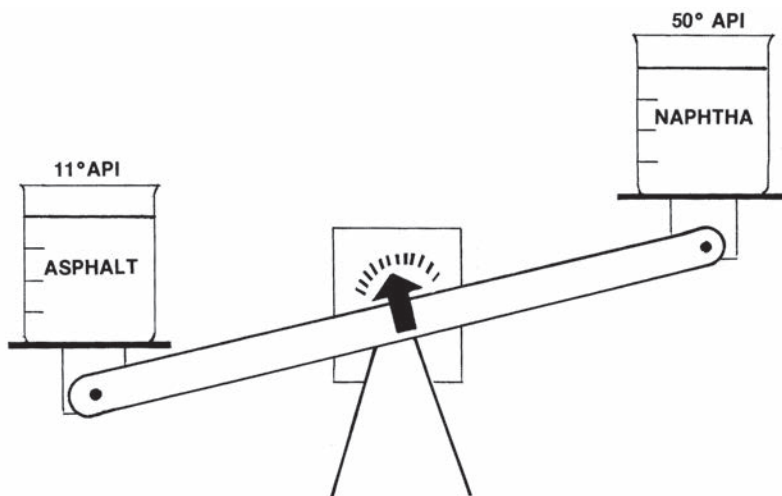

Fig. 3-8. API Gravities of Asphalt and Gasoline
2. Counterintuitively, the higher the API gravity, the lighter the compound, as shown in Figure 3-8